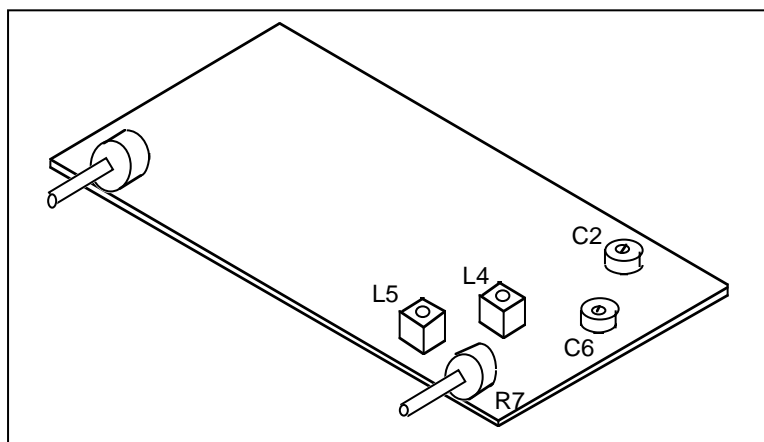

Figure 18. Locations of the variable capacitors and inductors
4. ☐ Set the TUNING control to the 10 o'clock position. *Carefully* adjust inductor L5 (Figure 18) with the white tuning stick until a loud low frequency tone is heard in the speaker (set volume control as desired). *Caution:* Do not screw down the inductor slugs too far, as the ferrite material could crack. By adjusting L5 to hear the tone, you are tuning the receiver to 20.00 MHz. The signal which you hear is generated in OSC1, a crystal controlled test oscillator built into the receiver. Once L5 has been set, DO NOT readjust it during the remainder of the alignment procedure. (When the receiver tunes 20.00 MHz with the knob set to the 10 o'clock position it will tune 20.1 MHz with the knob centered on the 12 o'clock position.)